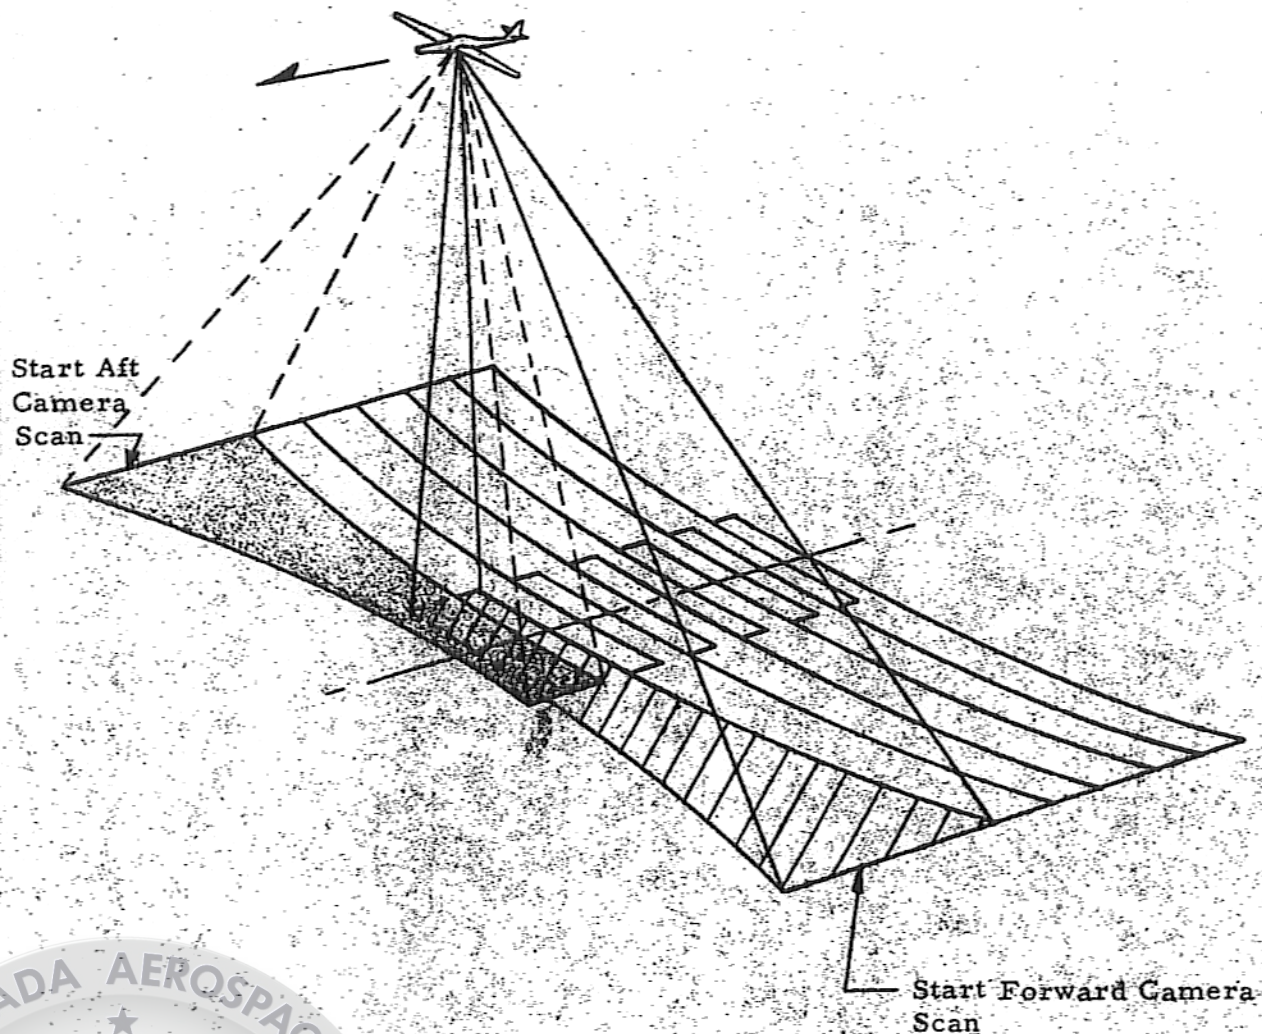

Figure 2-2. Aerial Panoramic Photography, Type II
- 2-3. Photographic coverage of the Type II system is represented in Figure 2-2. In normal flight attitude the two cameras simultaneously scan the earth across the ground track at the following angles measured from a line between the combined camera CG and nadir: (1) the forward camera (B unit) looks  $8.5^\circ$  aft and scans from  $63^\circ$  to the left to  $30^\circ$  to the right, and (2) the aft camera (A unit) looks  $8.5^\circ$  forward and scans from  $63^\circ$  to the right to  $30^\circ$  to the left.